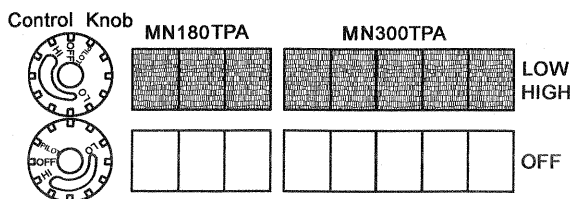

Figure 21 - Burner Patterns
8. Turn control knob counterclockwise ↻ to desired heating level. The main burner should light. Set control knob to any heat level between HI and LO. (see Figure 21)